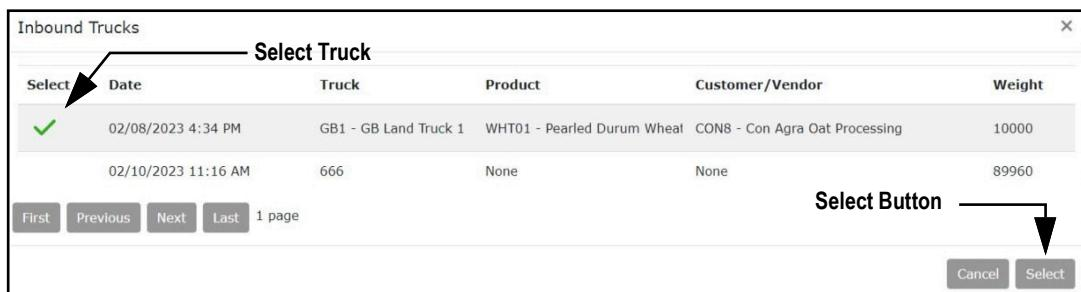

Figure 9-10. Inbound Trucks Window
4. The Inbound Trucks window displays (see Figure 9-10 on page 141).